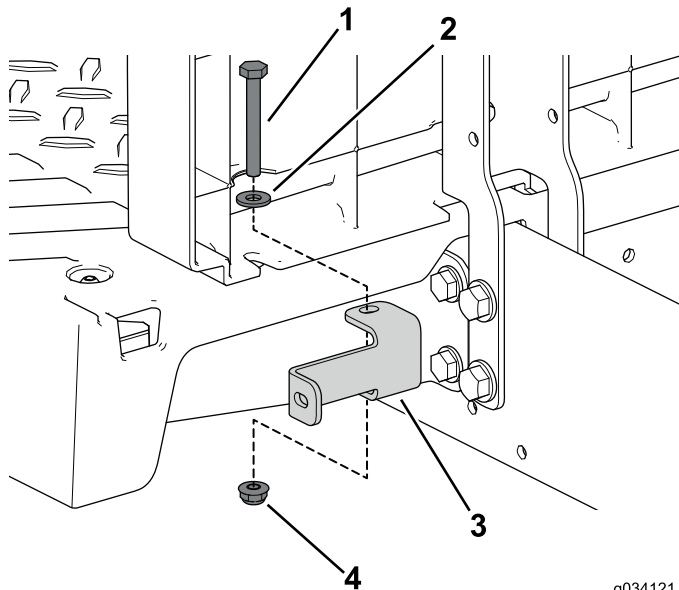

Figure 87
7. Use the 2 bolts (1/4 x 2 inches), washer, and locknut to secure the left and right panel bracket the machine (Figure 87).
8. Use the 4 self-tapping screws to secure the left side cover to the seat assembly (Figure 87).